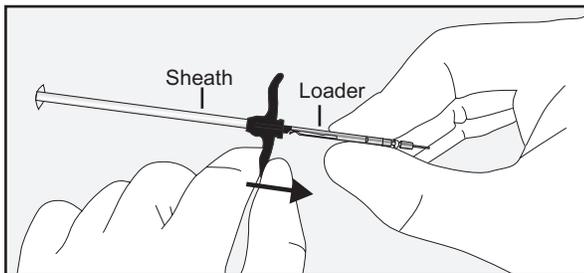

Figure 24: Pull the Sheath until the Proximal End is Aligned with the Proximal End of the Reed Connector
7. If the patient’s response signals correct lead placement at acceptable stimulation intensity, then hold the lead in loader firmly. Slowly withdraw the sheath approximately 2 cm, until the proximal end of the sheath aligns with the proximal end of the reed connector on the loader. This step deploys the lead anchor. See Figures 24 and 25.